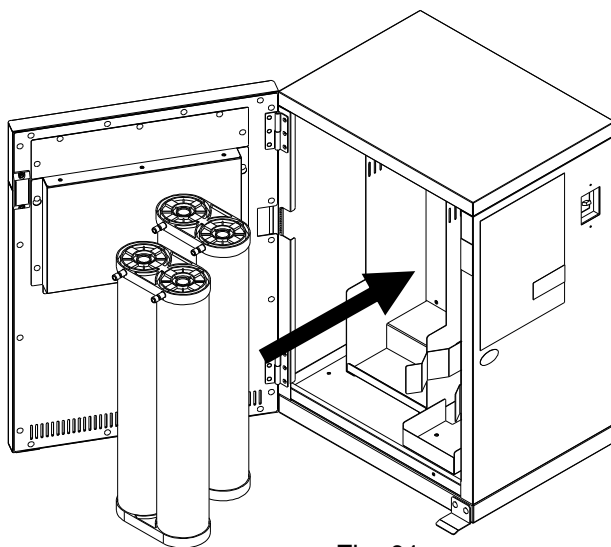

Fig. 01
- (3) Install the selected ion exchange resin cartridge firmly to the resin installation plate inside the system. (See Fig. 01)